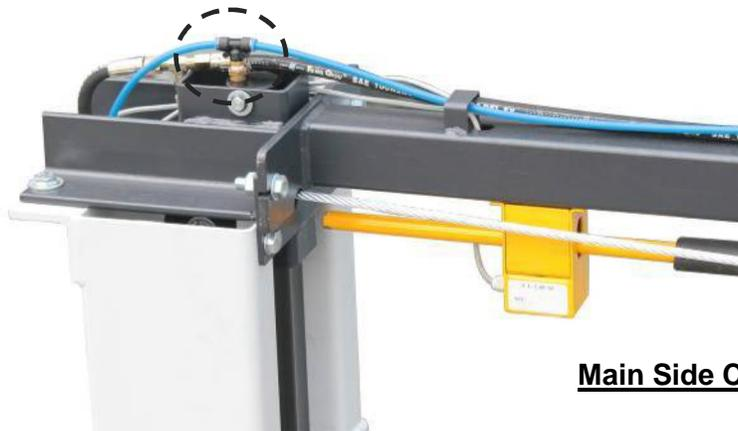

Fig. 9a
1. First screw on the hose fitting connectors on the cylinder's lower end ports. (Fig. 9a)